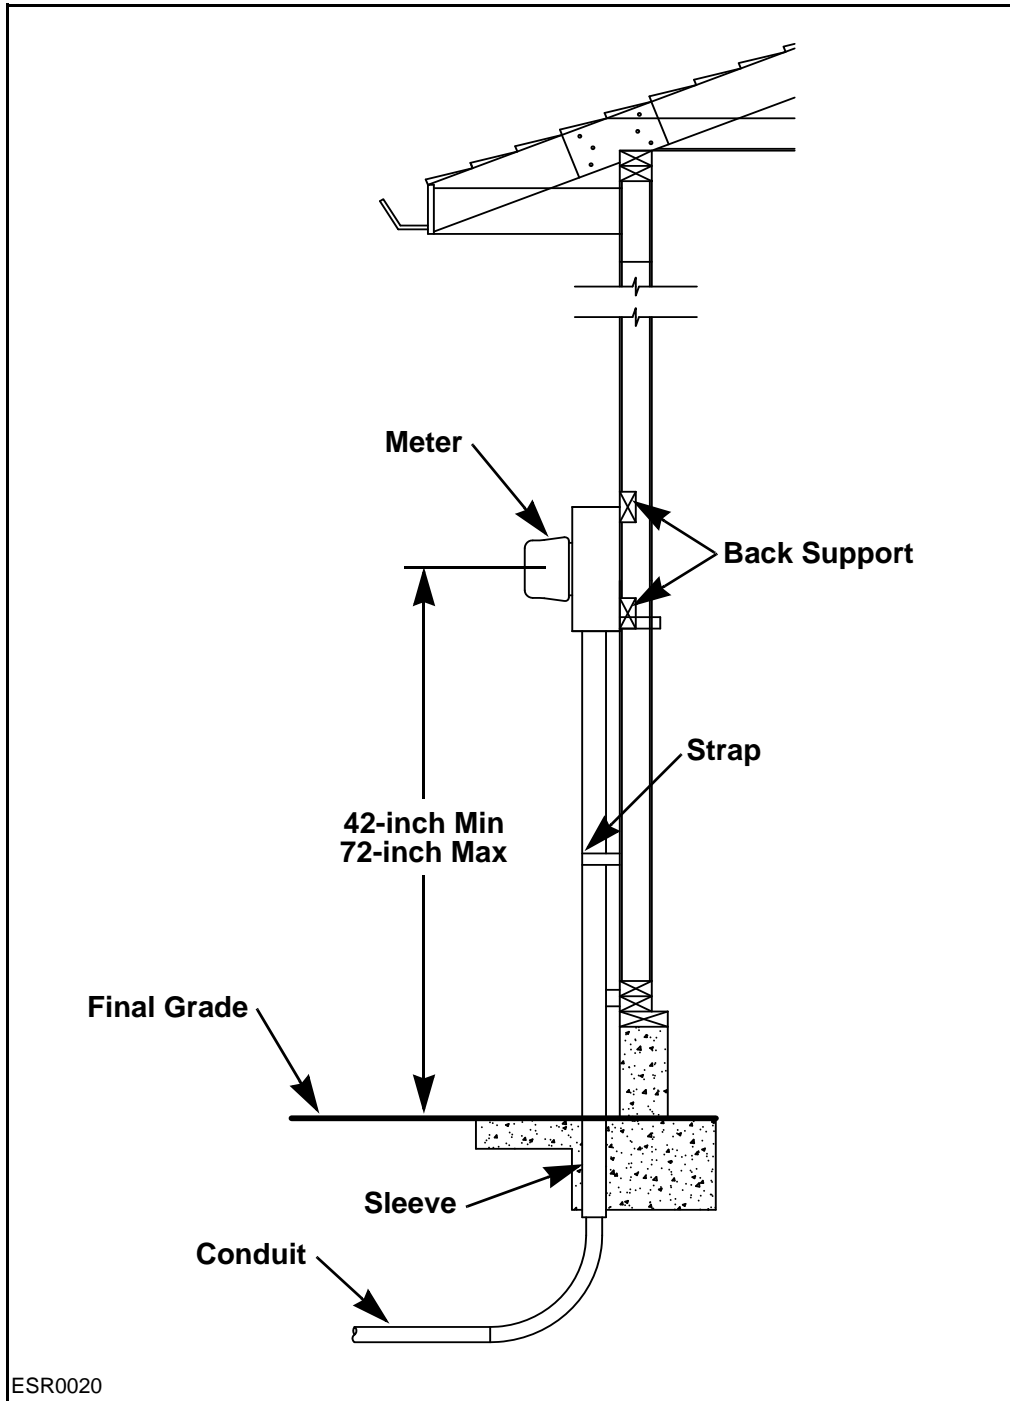

Figure 7-6: Surface-Mount Installation
- The meter socket and conduit must be rigidly attached to the structure; 2- x 4-inch back supports are required. The meter socket and conduit must be plumb when inspected. PGE will determine the exact location of the meter. See **Figure 7-6**.
- No bends are allowed in the conduit riser between the meter socket and the underground sweep. If local codes do not allow conduit in the foundation or footing, a surface-mounted meter must be installed. See **Figure 7-6**.